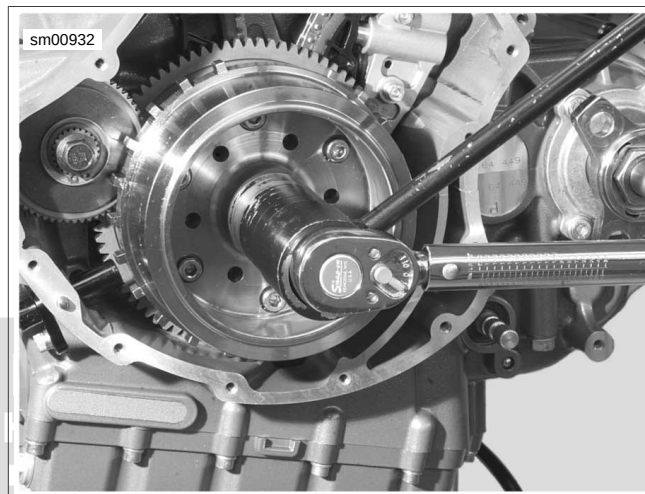

Figure 7-35. Install Rotor Shell
2. See Figure 7-35. Hold the rotor with CRANKSHAFT ROTATING WRENCH (Part No. HD-45314) and tighten rotor bolt to 83 Nm (61 ft-lbs) then loosen one full turn.